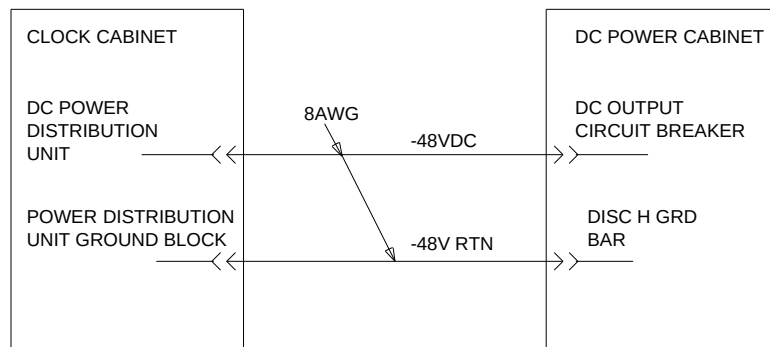

Figure 4-26. Clock Cabinet DC Connections
5. Connect the wire to the **DISCH GRD** in the DC Power Cabinet. See Figure 4-26.
- Connect a minimum of 6 AWG wire (good for 600 feet) to the **-48V** terminal on the clock cabinet terminal strip as shown in Figure 4-26.
- Connect a minimum of 6 AWG wire (good for 600 feet) to the **48VRTN** terminal on the clock terminal strip as shown in Figure 4-26.
- Terminate the -48VDC lead on a **DC OUTPUT** circuit breaker as shown in Figure 4-26.
- Terminate the -48V RTN lead on the **DISCH GRD** bar as shown in Figure 4-26.